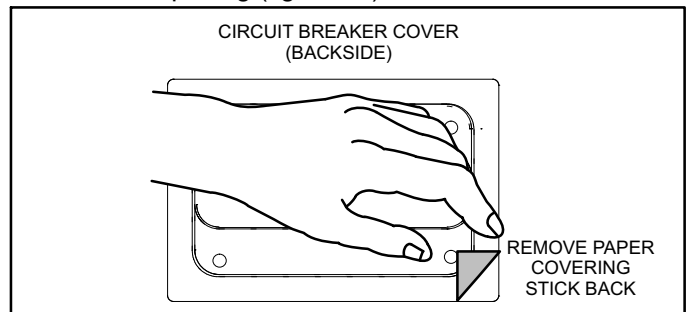

Figure 20. Remove Paper Cover
2. Remove paper covering adhesive back around backside perimeter of circuit breaker cover (figure 20).